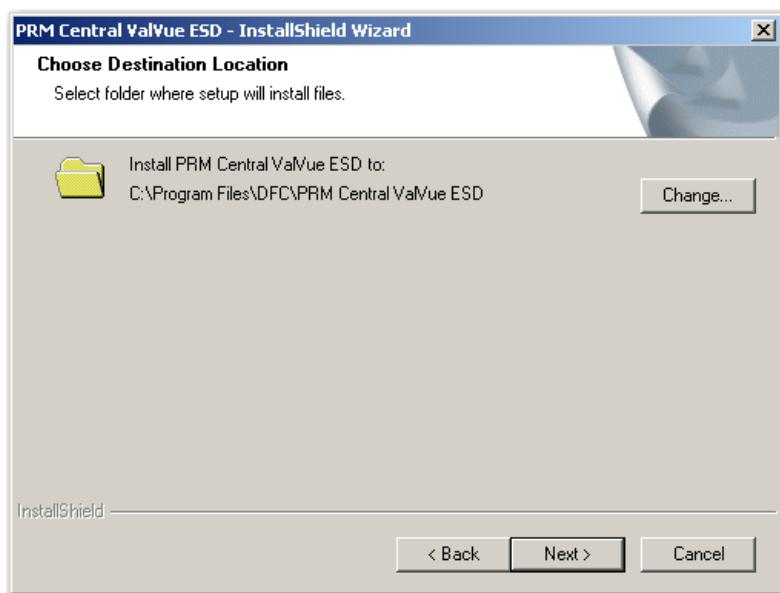

Figure 9 - PRM Central Server Destination Folder
4. Click the accept radio button, click **Next** and the *Choose Destination Location* screen appears (*Figure 9*).